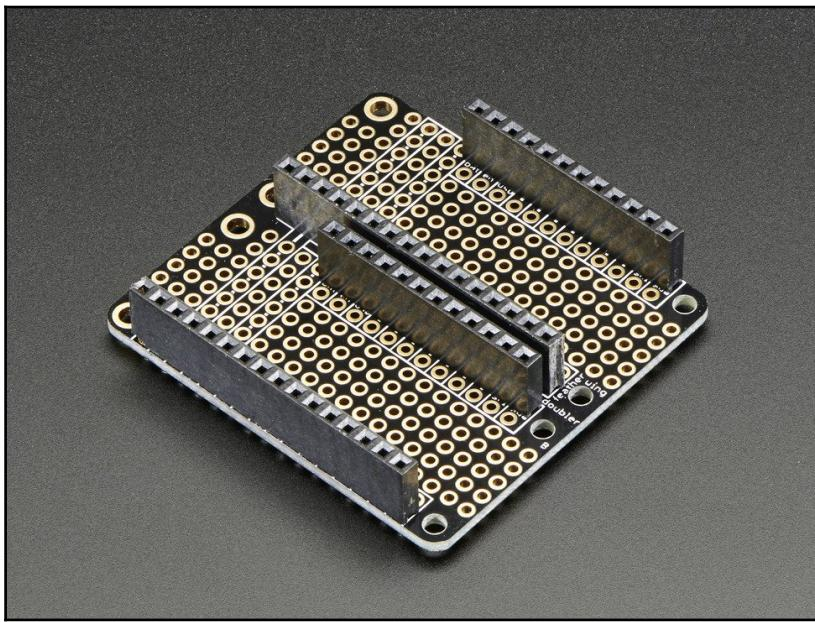

Figure 4.4: The FeatherWing Doubler PCB with soldered Feather Female Headers. Image courtesy of Adafruit Industries—<https://www.adafruit.com>
2. Solder the **Feather Female Headers** to the FeatherWing Doubler PCB. *Figure 4.4* shows the FeatherWing Doubler PCB with soldered Feather Female Headers: